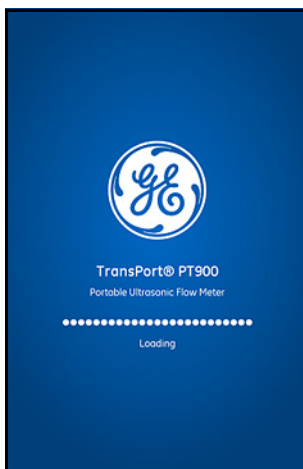

Figure 59: APP Loading Screen
2. While the APP is loading, you should see the initialization screen shown in *Figure 59* below.